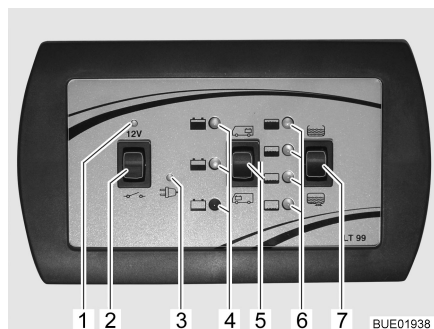

Fig. 46 Panel (LT 99)
The 12 V main switch (Fig. 46,2) switches the 12 V power supply of the living area on and off.
*Switching on:* ■ Press the upper part of the rocker switch (Fig. 46,2) "12 V": The 12 V living area power supply is switched on. The 12 V indicator lamp (Fig. 46,1) lights up in green.
*Switching off:* ■ Press the lower part of the rocker switch (Fig. 46,2) "⏏": The 12 V living area power supply is switched off. The 12 V indicator lamp (Fig. 46,1) goes off.
The rocker switch for the battery display (Fig. 46,5) can be used to check the charging condition of the living area battery or starter battery.
- Press the upper part of the rocker switch (Fig. 46,5) : The charging condition of the living area battery is displayed.
- Press the lower part of the rocker switch (Fig. 46,5) : The charging condition of the starter battery is displayed.
After the rocker switch is pressed, either the red, yellow or green indicator lamps (Fig. 46,4) light up.
The rocker switch for the tank level display (Fig. 46,7) can be used to check the level of the water tank or the waste water tank.
- Push the rocker switch (Fig. 46,7) up : The level of the water tank is displayed.
- Push the rocker switch (Fig. 46,7) down : The level of the waste water tank is displayed.
After the rocker switch is pressed, an indicator lamp (Fig. 46,6) lights up.
The yellow 240 V indicator lamp (Fig. 46,3) illuminates whenever line voltage is available at the transformer/rectifier input.